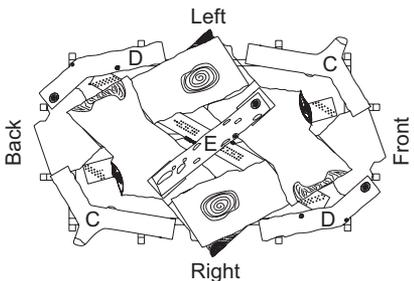

Figure 47 - Installing Twigs "C, D, E" (Top View)
- Take twigs "C" (shaped like a "Y") and place them as shown in Figure 47.
- Take twigs "D" (bent twig) and place them as shown in Figure 47.
- Place twig "E" across the top of logs "B" as shown in Figure 47.
- When finished installing logs, close glass door. Make certain safety door switch is fully depressed by door frame before securing four (4) spring loaded latches.